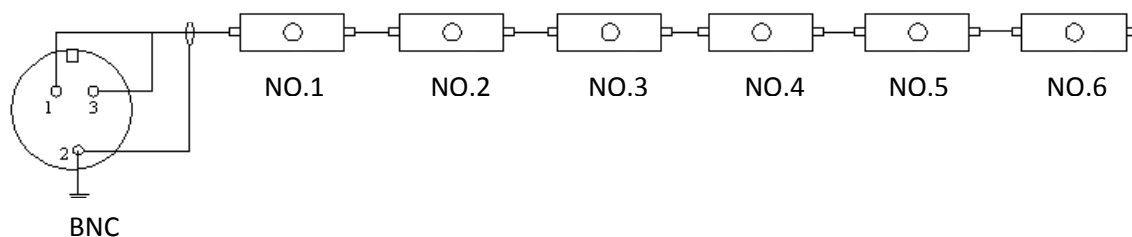

Figure 7a: Connecting diagram of spark detectors
2) Since the signal is transmitted via the power carrier, the connection between the detectors can adopt to the practical situation flexibly. Figure 7a and 7b show such typical connections. The connection principal is that the shorter the distance between the host machine and the detector is, the better the connection is.